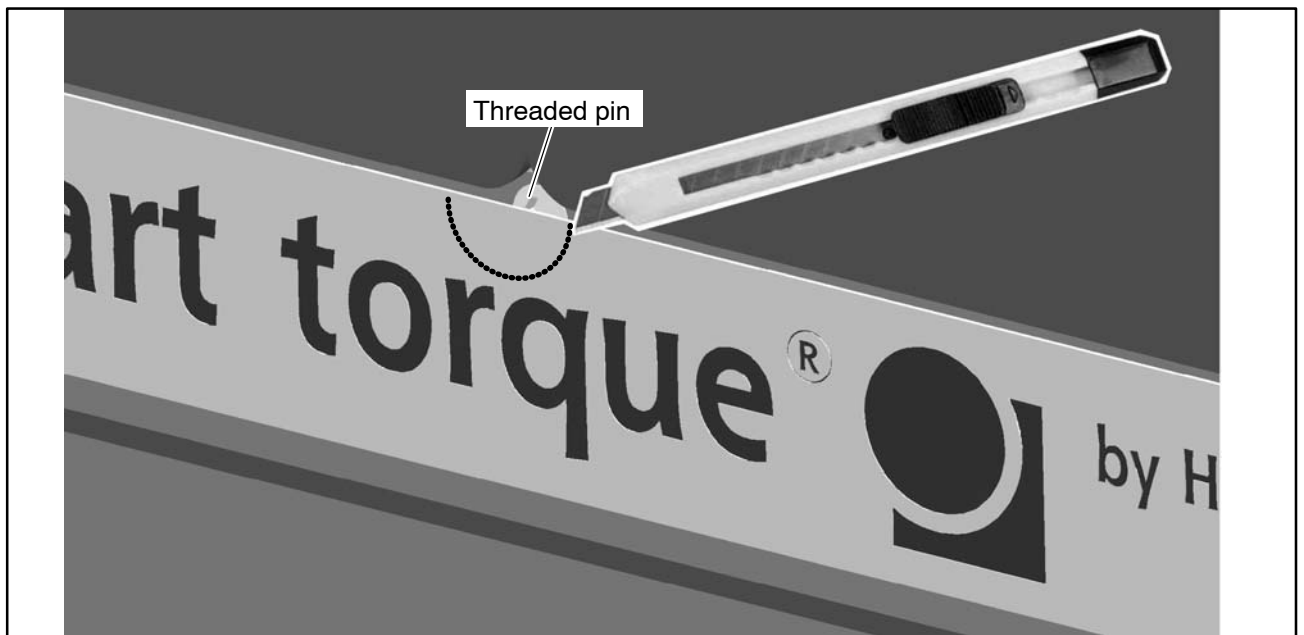

Fig. 6.5: Cut out the film
2. **Only for measuring ranges 500 N · m to 3 kN · m and subsequently ordered protection against contact:** some of the tapped holes for the locking screws are covered by attached film. Make a semicircular cutout in the film here, with a minimum radius of 6 mm (use a cutter, as shown in Fig. 6.5, for example).